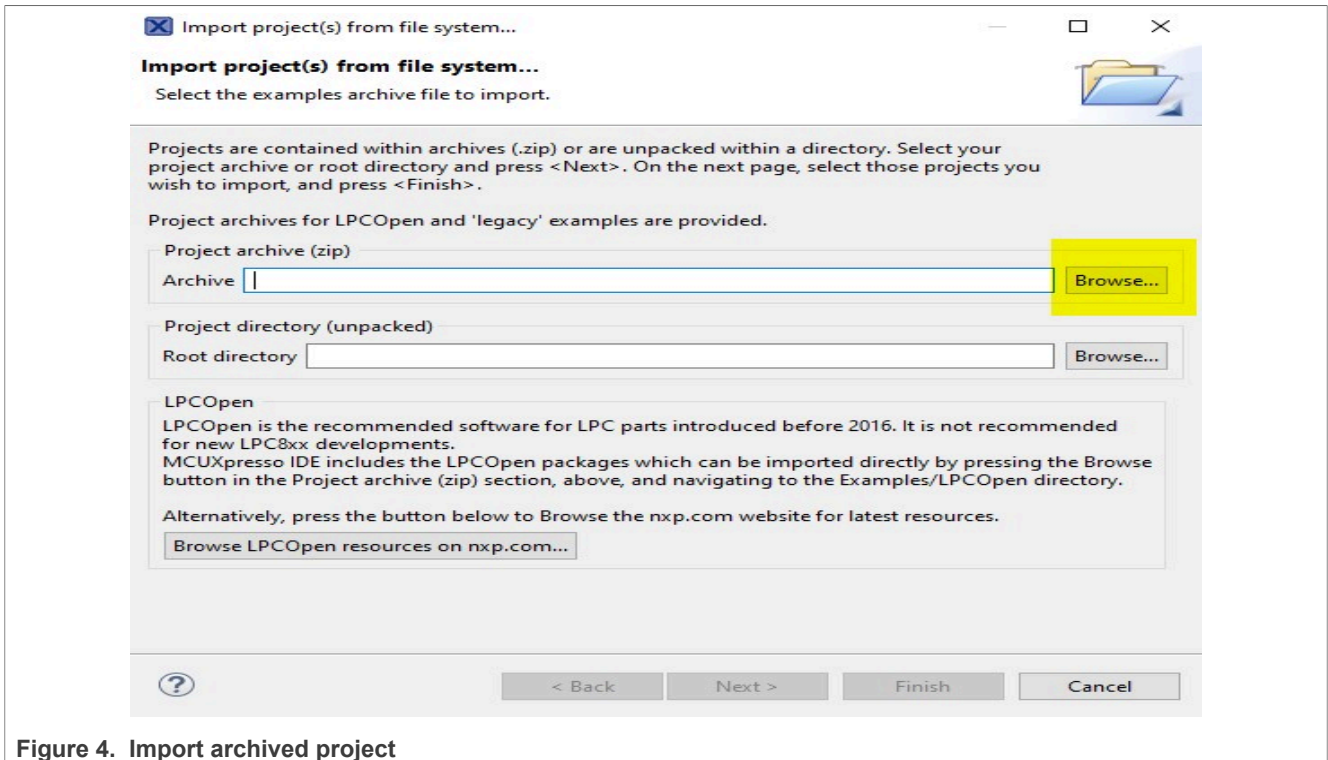

Figure 4. Import archived project
3. Click **Browse...**, see Figure 4.